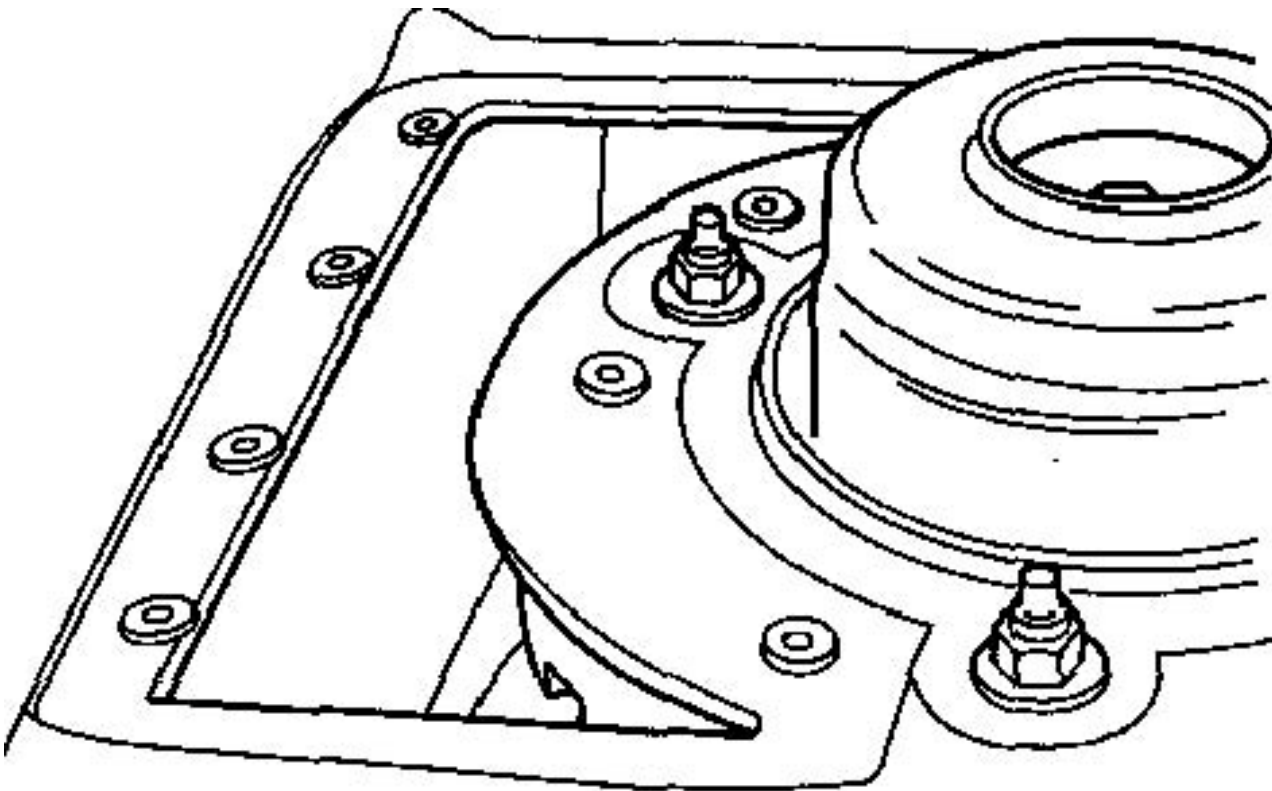

Figure 8. Strut tower with corrosion removed
- B14. Remove all corrosion-damaged sheet metal material making sure to remove all traces of corrosion (**Fig. 8**).